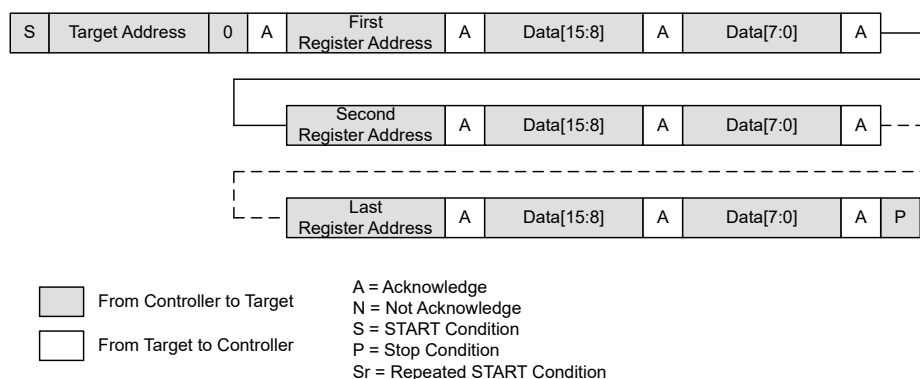

Figure 7-22. Write to Multiple Registers
7.5.1.5.2 Writing Multiple Registers (Figure 7-22)
A complete word must be written to a register (high byte and low byte) for proper operation, as shown in Figure 7-22. Steps for this process are: